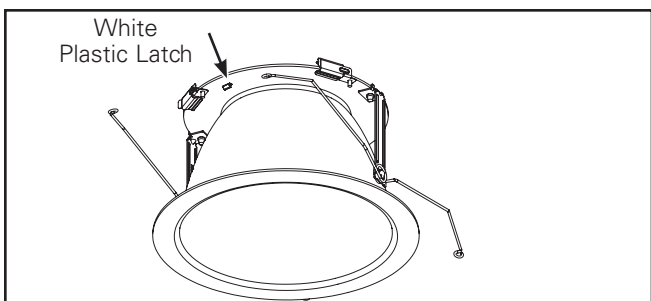
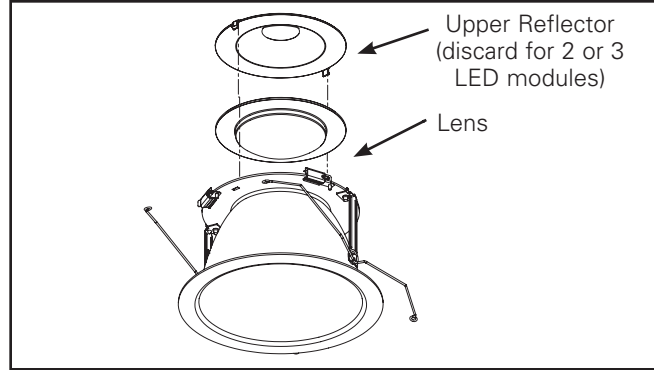

Figure 39
Figure 40
4. If the LED modules has 2 or 3 LEDs, gently remove the upper reflector by disengaging the white plastic latches (Figure 39. & Figure 40.) and discard it. Retain the upper reflector on the trim for 1LED modules.
1. Press in on white plastic latch to remove upper reflector and clean lens. (Figure 39 & 40)